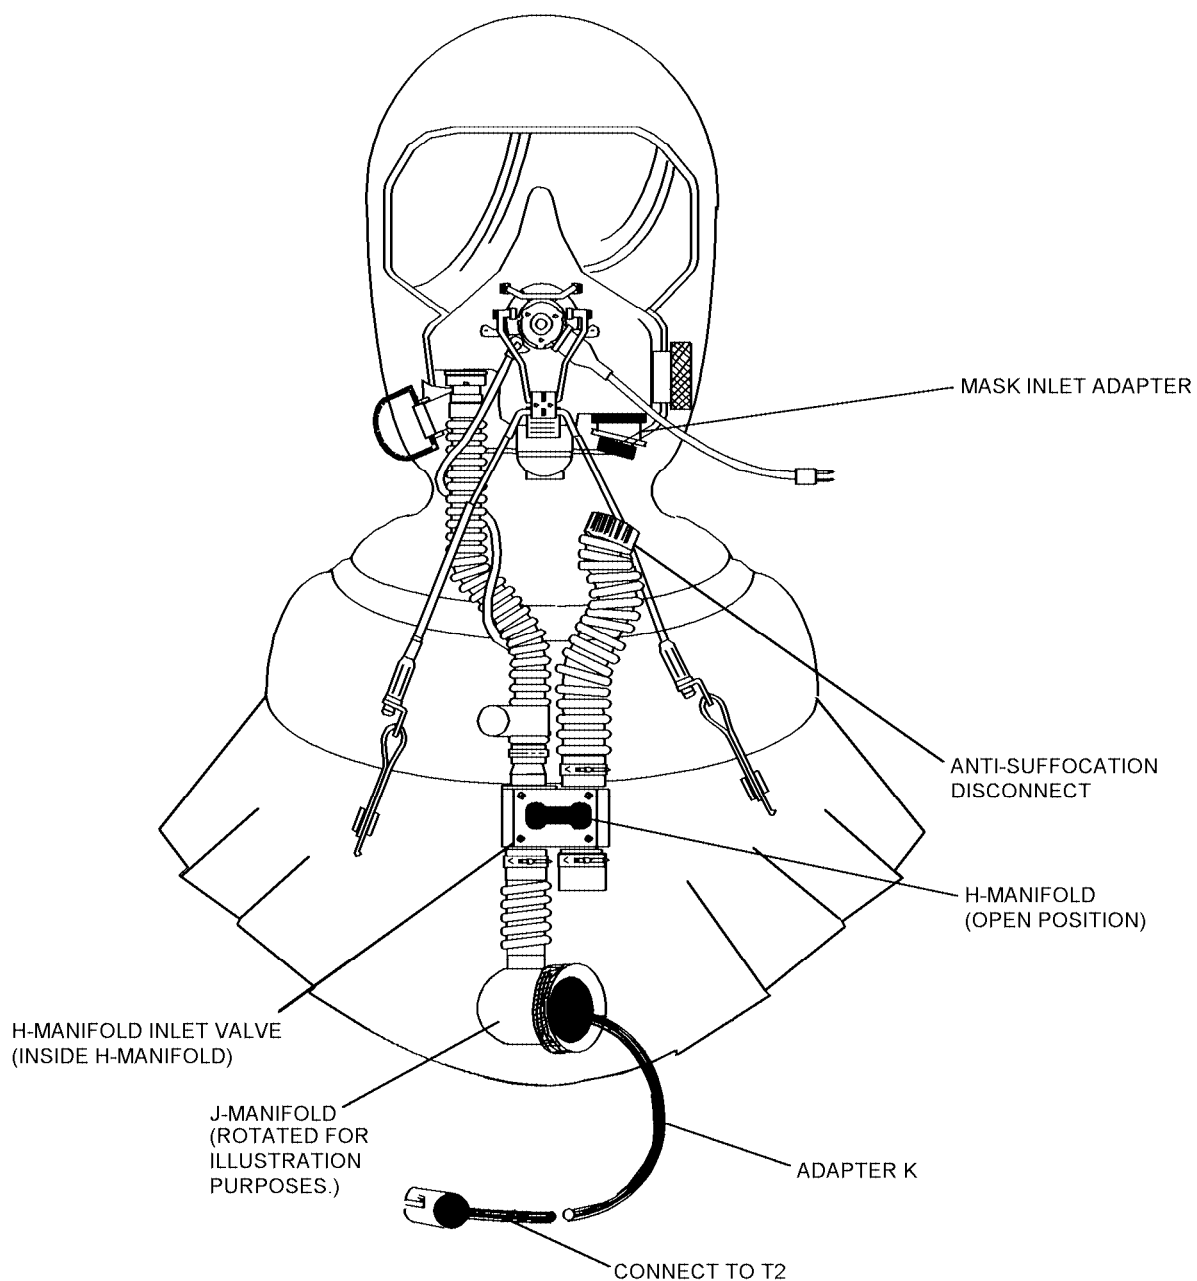

Figure 4-79. (V)1 Variant - Non-Oxygen H-Manifold Inlet Valve - Reverse Leakage Test
2. Connect adapter K to J-manifold and T2 (figure 4-79 and 4-80).